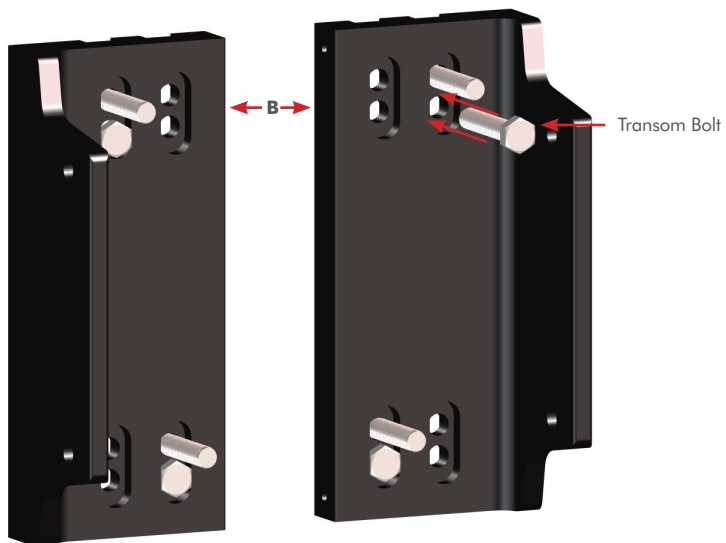

Figure 3
STEP 3: Install the **transom bolts** through the holes directly below the engine bolts in the **M to S adapter plates (B)** as illustrated. **FIG 3**